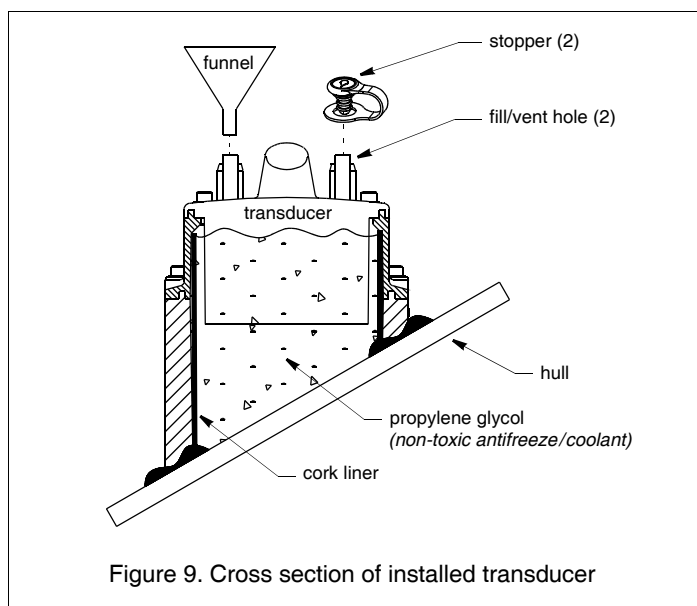

Figure 9. Cross section of installed transducer
6. Top-off the propylene glycol in the tank. However, allow a small air space to accommodate expansion with temperature changes. Using the funnel supplied, pour the fill-liquid through one of the fill/vent holes until the tank is full (see Figure 9). The second hole will act as a vent. (Alternately, the tank can be filled using standard diameter tubing secured with a band clamp.) Attach the stoppers supplied and plug both fill/vent holes. To ease sliding, lubricate the stoppers with the fill liquid. Tie the funnel to the handle to keep it near-at-hand.